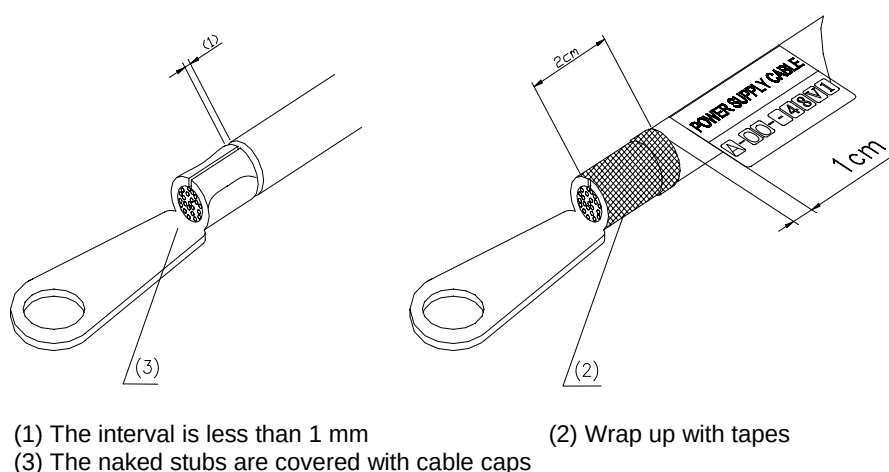

Figure 4-11 Preparing lugs
- 5) Coat the lug and the naked cable with insulating tape, as shown in Figure 4-11. Do not expose lugs and naked cables.